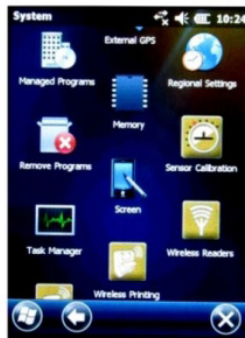

Figure 12. System screen
5. From the Settings screen, select **System**. The System screen displays (Figure 12).